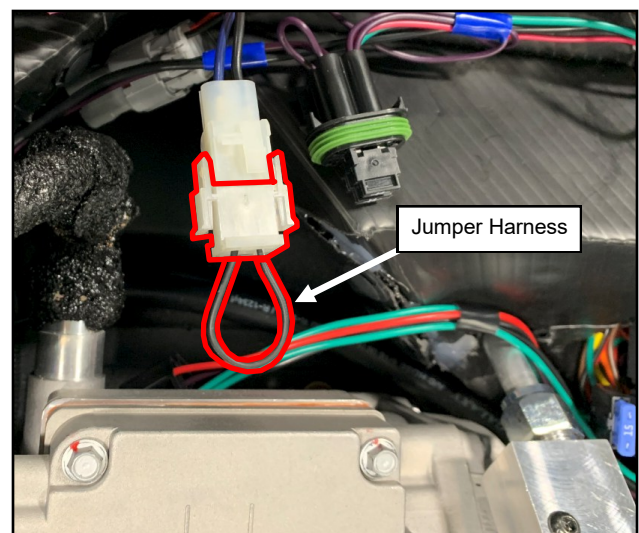

Fig. 1.6 (Install Jumper Harness)
- 1.6 Install Jumper Harness supplied in this kit into the white connector on the A/C Unit's main harness per fig 1.6.